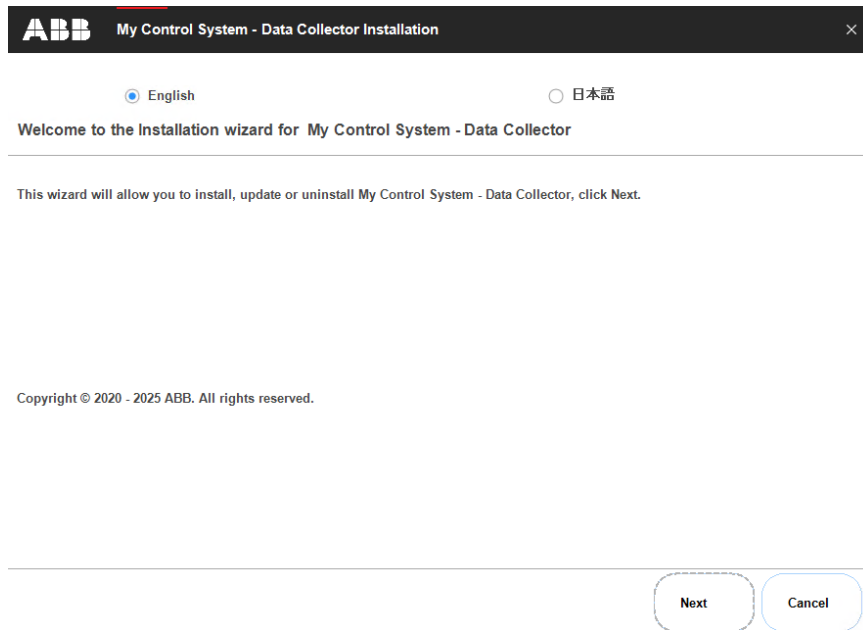

Figure 3.2: MCS-DC Installation Wizard
3. Starting with version 2.10, MCS-DC supports data collection from Japanese language systems. Select the applicable language on the installation wizard and click **Next**, as shown in **Figure 3.2**.